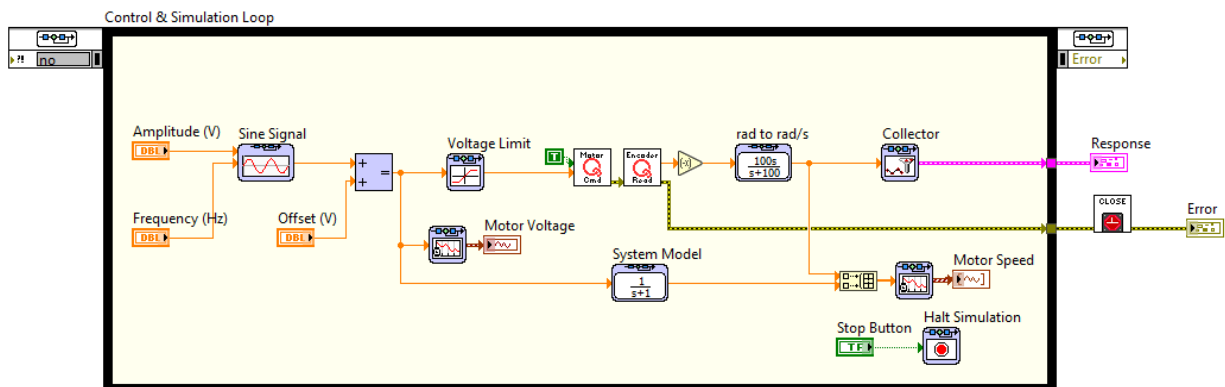

Figure 6: VI that applies a sinusoidal voltage and measures the corresponding servo speed
2. The VI applies a sinusoidal input to the DC motor and measures the load disc velocity using the encoder as shown in Figure 6.